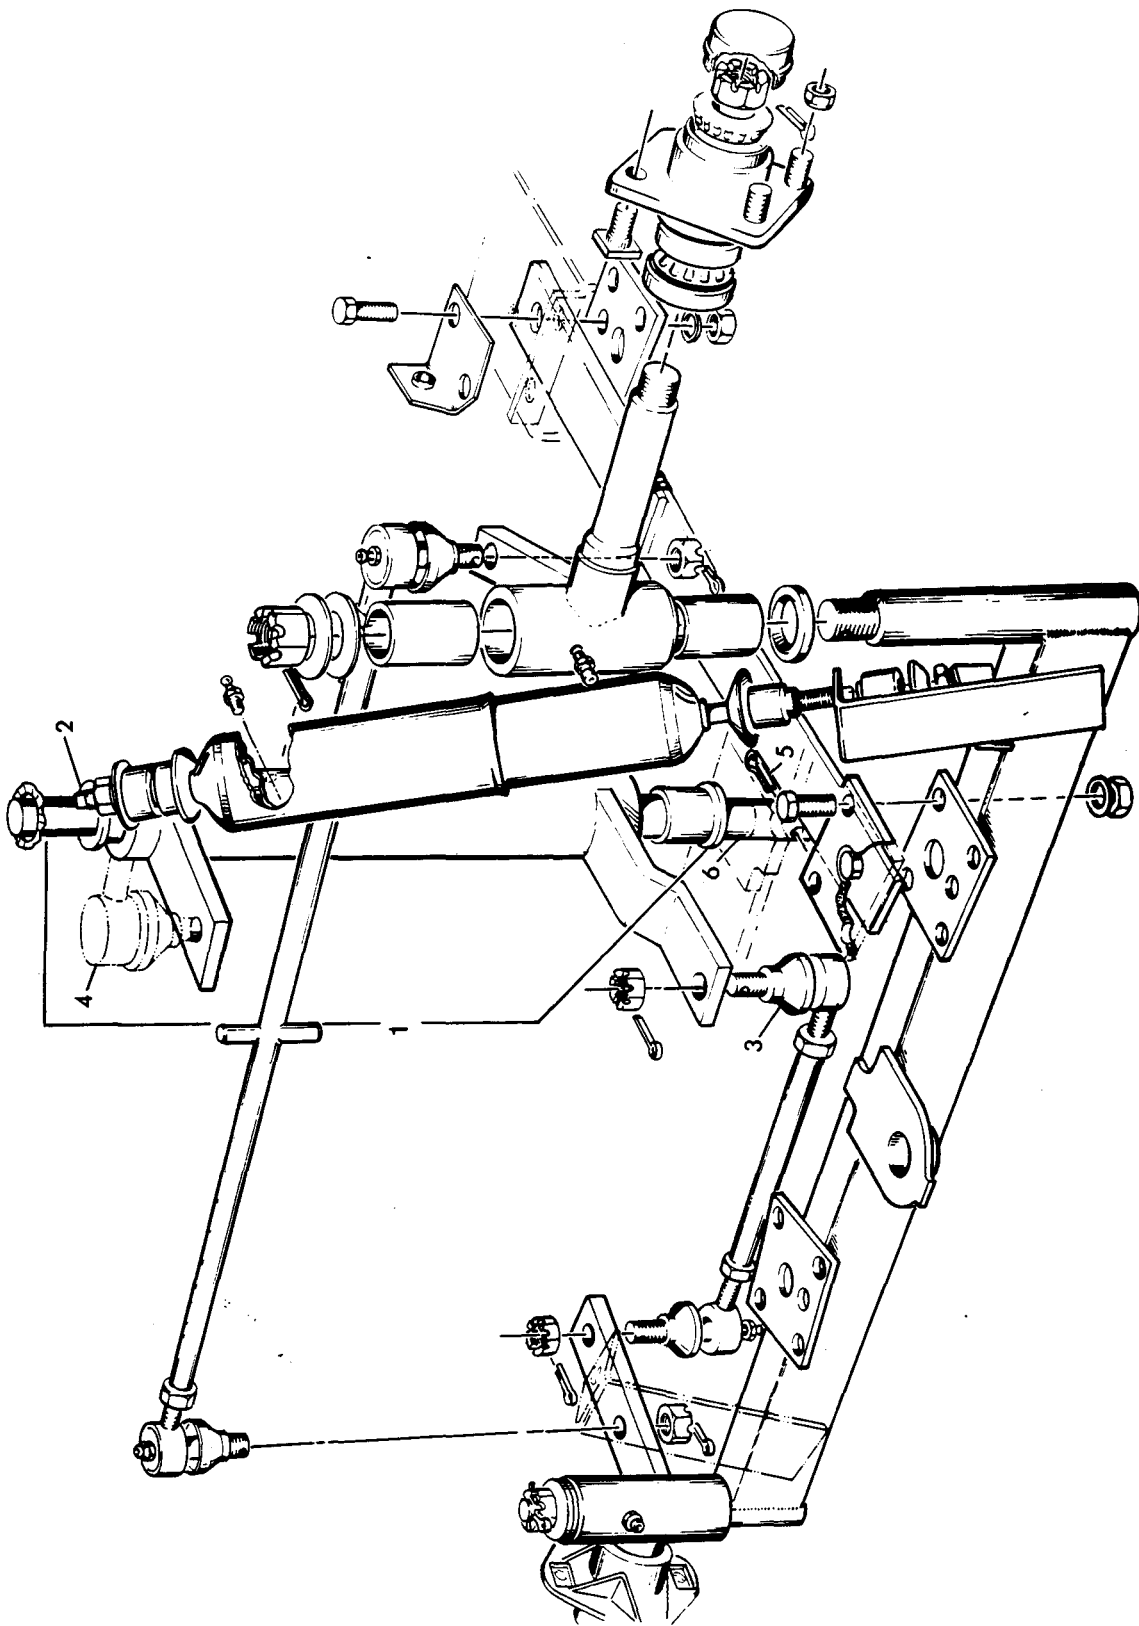

FIG. D-3 IDLER ARM REMOVAL
**Idler Arm - 4 Wheel Vehicles (Fig. D-3)**
**Idler Arm Removal (Fig. D-3)**